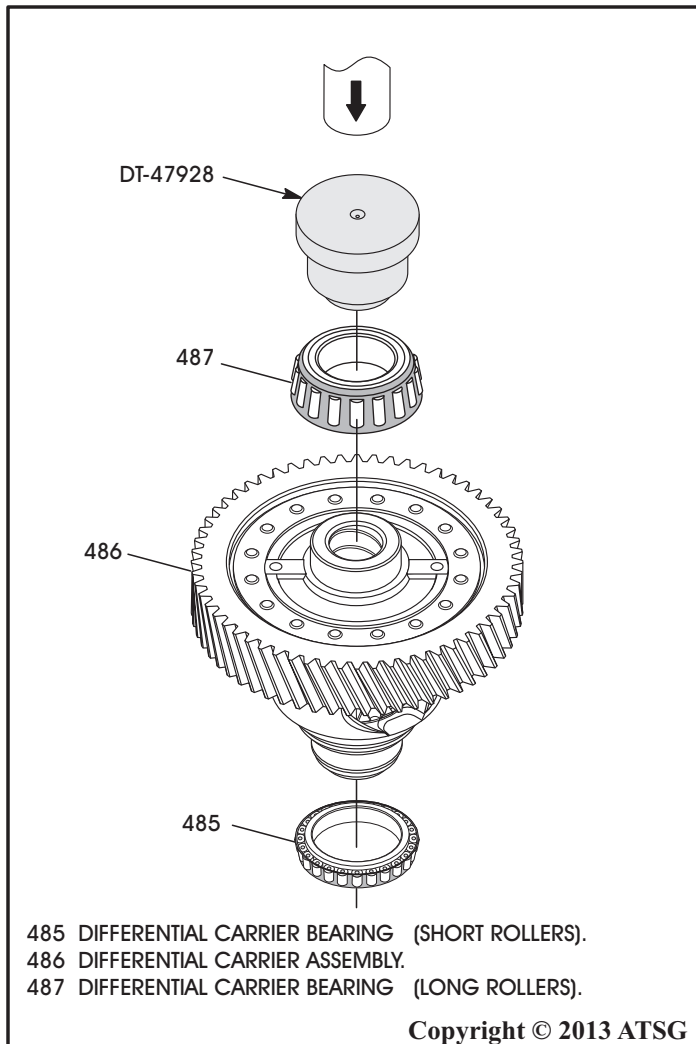

Figure 86
5. Install the left side differential carrier bearing (Long Rollers) using DT-47928 and hydraulic shop press, as shown in Figure 86.